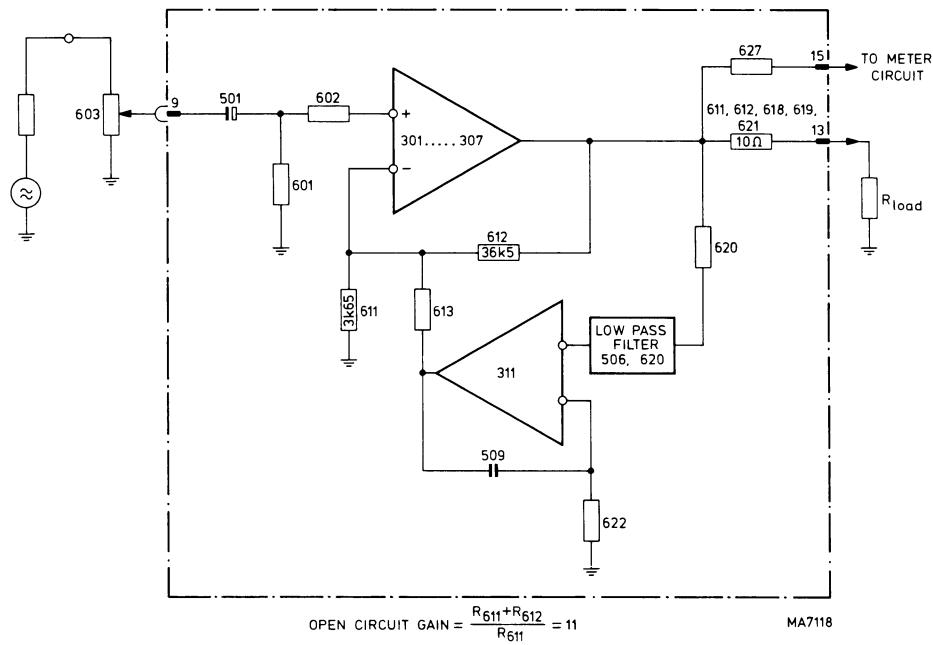

Fig. 9. Simplified diagram of the amplifier
3.1.3. Unit D Amplifier (Fig. 9)